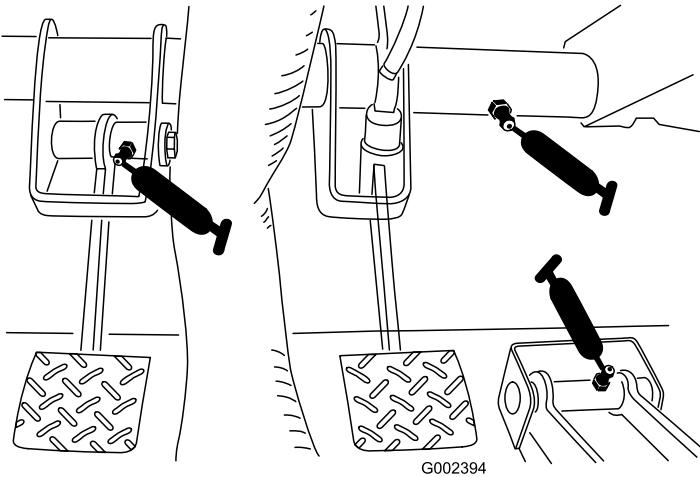

Figure 40
- Clutch (1), accelerator (1), brake (qty.1) (Figure 40)